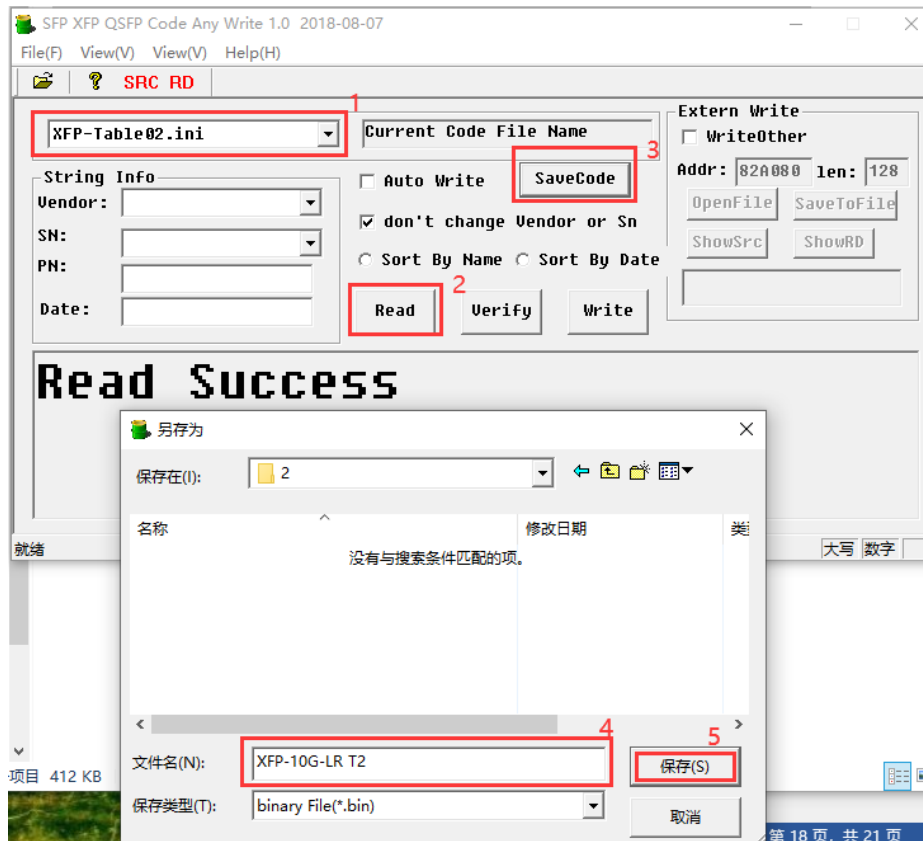

Figure 31
2.6 Select the configuration file corresponding to the XFP optical module, select the "XFP-Table02" configuration file to read the code(as shown in Figure 31)
2.7 Click the "Read" (as shown in Figure 31)
2.8 Click the "SaveCode" (as shown in Figure 31)
2.9 Name the code (as shown in Figure 31)
2.10 Save the code to your computer (as shown in Figure 31)